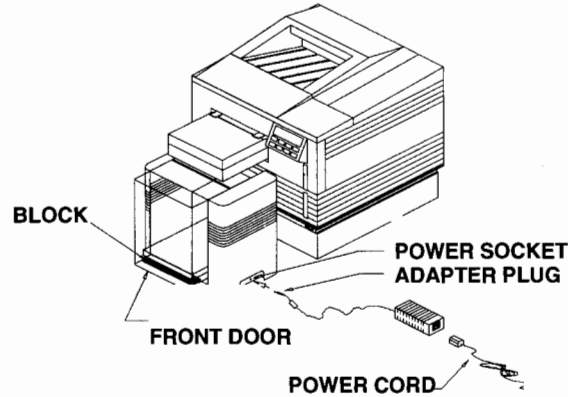

Figure 2-7. Attaching the power Adapter.
1. With the smoked plastic door facing you, locate the Power Socket (at the base of the right side cover) of the Paper Feeder, as shown in figure 2-7.